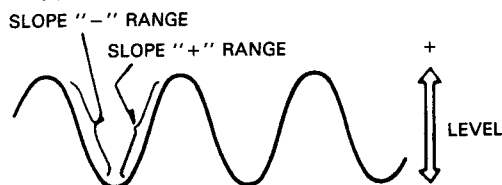

Fig. 10
Trigger point on waveform is adjusted by the LEVEL/PULL (25) control. Fig. 10 shows the relationship between the SLOPE and LEVEL of the trigger point. Triggering level can be adjusted as necessary.